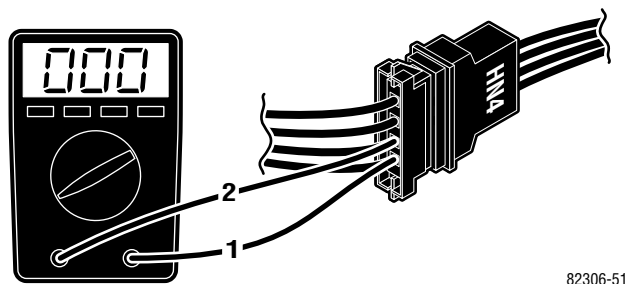

Figure 5-12. Output to Pump
1. Make sure all connectors are connected and activate the AC120V operating mode. See figure 5-12.